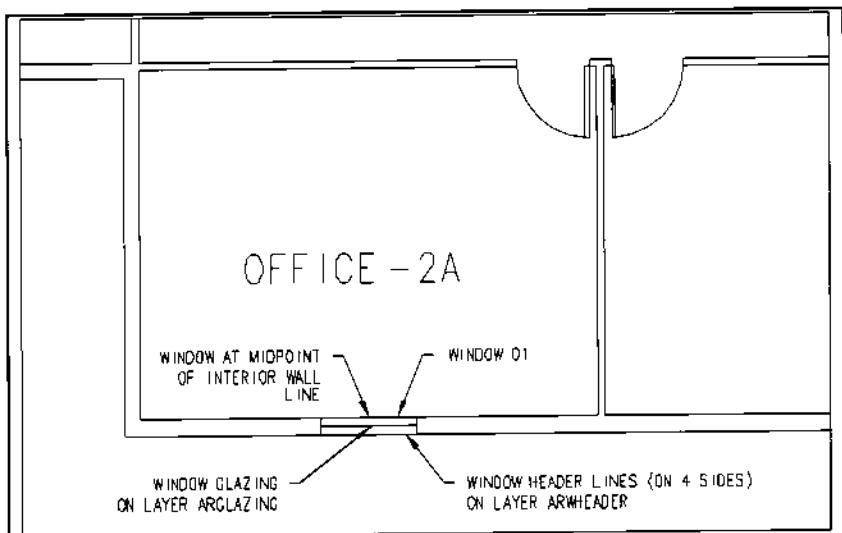

Figure 22.
2. Zoom into OFFICE-2A as shown in Figure 22 and insert Window 01, a 4'-0" wide x 4'-0" high window with a sill height of 3'-0". Unlike the door prompt, you will be prompted for the sill height if 3D symbols is on.
- > Pick insertion point or Size/Osnap/Rotation (NEArest) <drag>: [MID] of [interior wall of OFFICE-2A as shown in Figure 22]